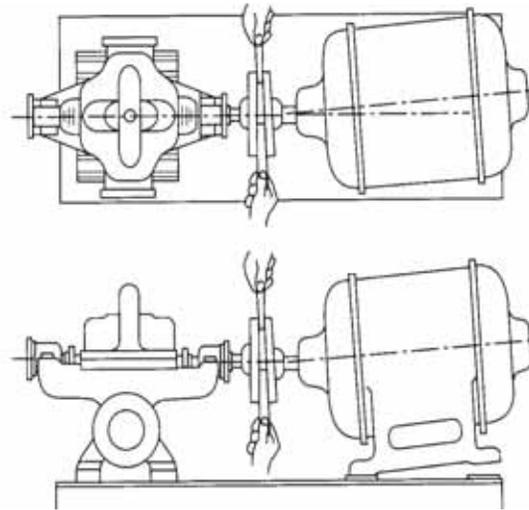

Fig. 8 Checking angular/parallel alignment
- The pump and motor were accurately aligned at the factory, but handling during shipment usually alters this pre-alignment. Using a small straight edge and feeler gauges or a dial indicator, check for horizontal, vertical, and angular misalignment of the coupling hubs (Fig. 8).